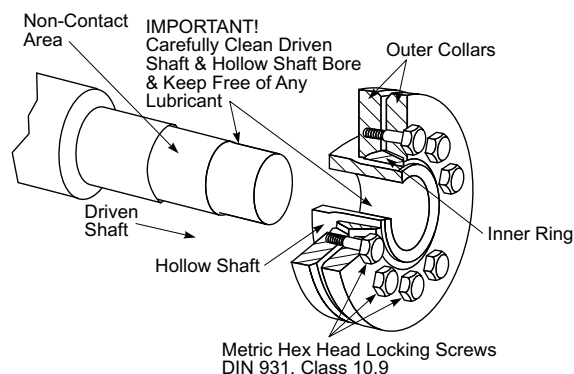

FIGURE 1 - TYPICAL SHRINK DISC
New shrink discs are supplied ready for installation. Prior to tightening the locking screws, remove the spacers (used to protect the inner ring during shipment) from between the outer collars. Figure 1 shows a cutaway drawing of a typical shrink disc.
2. Carefully clean hollow shaft bore under shrink disc and driven shaft OD of all lubricants with solvent before assembly of gear drive to driven shaft (Figure 1). Any traces of lubricant left on the driven shaft or hollow shaft bore under the shrink disc will significantly reduce the torque transmission capacity of the shrink disc.